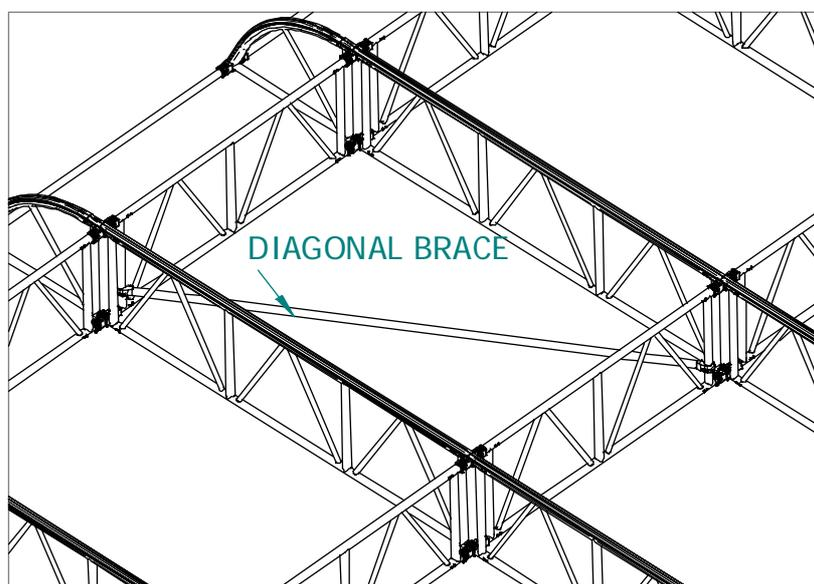

Fig. 5
2. Position the diagonal element as illustrated in figure 5.